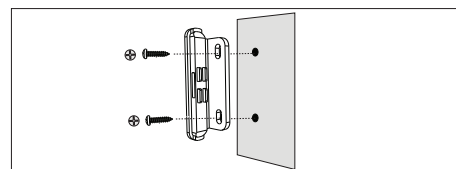

Figure 4.3: Mounting bracket using screws
The mounting bracket allows mounting of the magnet on its left or right side (90°), instead of its base. For example, use the mounting bracket for installations where the detector is mounted to the inside of a door frame. Refer to *Figure 4.3*.
4. If using screws, mount the bracket first, then replace the magnet cover. Refer to *Figure 4.3*.